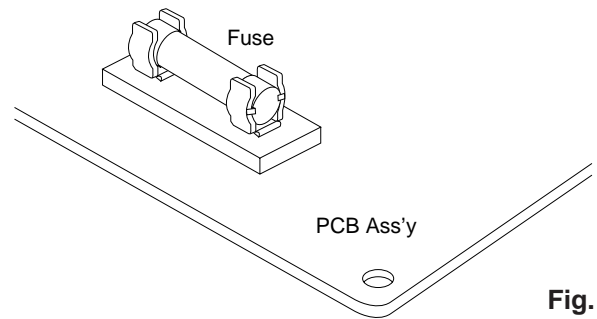

Fig. 5
- Remove the PCB Assy from the electrical component box. Then pull out the fuse from the PCB Assy. (Fig. 5)